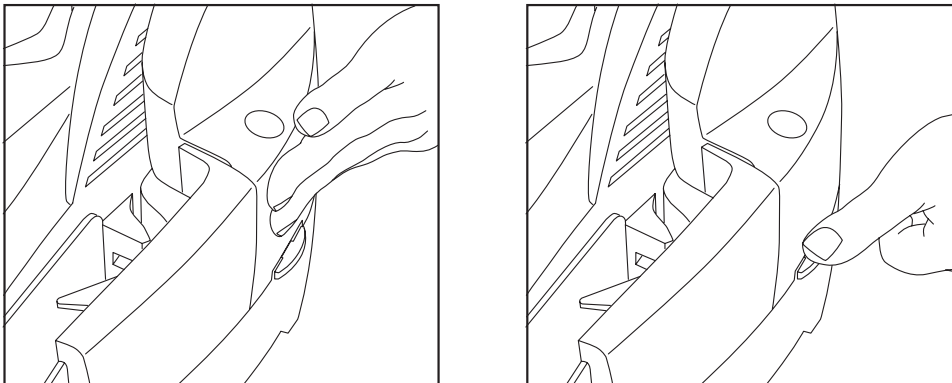

Figure 4. Closing the Unit
1. Push to close the access door (Left or Right) to its normal operating position (as show in Figure 4).
3. Push down on the tab of the access door (as shown in Figure 4) If the tab was not latched, a “click” sound will be heard as feedback to indicate the access guide is securely closed.